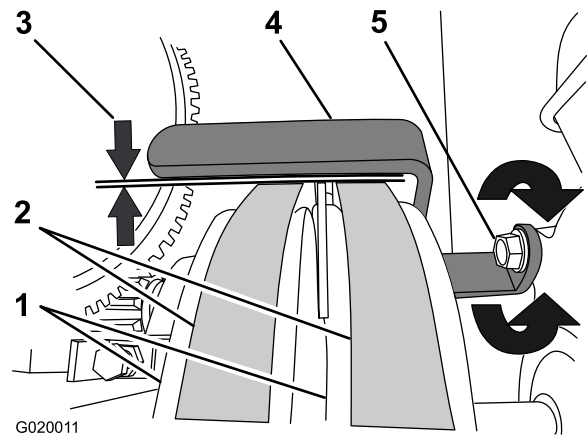

Figure 59
- Check that the air gap between the belt guide and the belts is 2.5 to 4.0 mm (3/32 to 5/32 inch); refer to Figure 59.
- Loosen the bolt that secures the belt guide to the engine (Figure 59).
- Rotate the belt guide up or down until there is an air gap of 2.5 to 4.0 mm (3/32 to 5/32 inch) between the guide and each belt (Figure 59).
- Tighten the bolt that secures the belt guide to the engine (Figure 59).